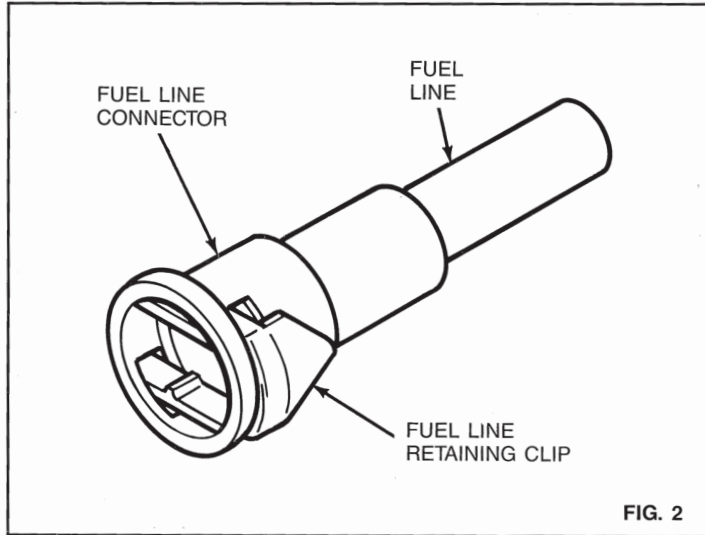

FIG. 2
B) Referring to Fig. 2, install the new fuel line retaining clips, 5/16" (natural/clear) and 3/8" (black), into their respectively sized fuel line connector with the triangular end on the clip facing away from the fuel line connector opening.